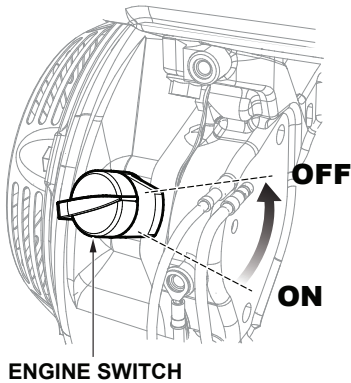

Figure 32. Engine ON/OFF Switch (OFF)
1. Place the engine ON/OFF switch (Figure 32) in the **OFF** position.